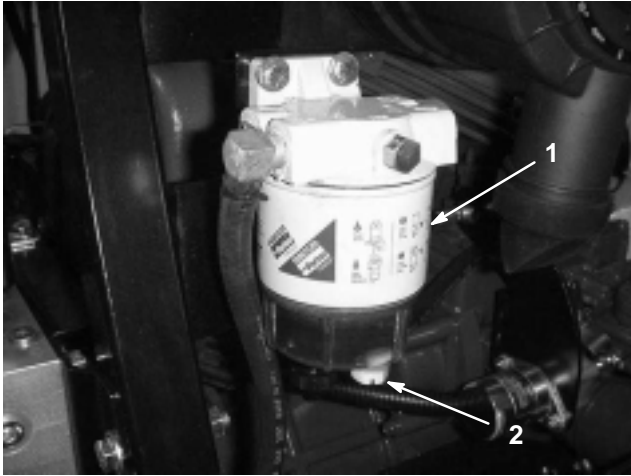

Figure 33
Drain water or other contaminants from the water separator (Fig. 33) daily.
2. Loosen the drain plug on the bottom of the filter canister (Fig. 33). Tighten the plug after draining.